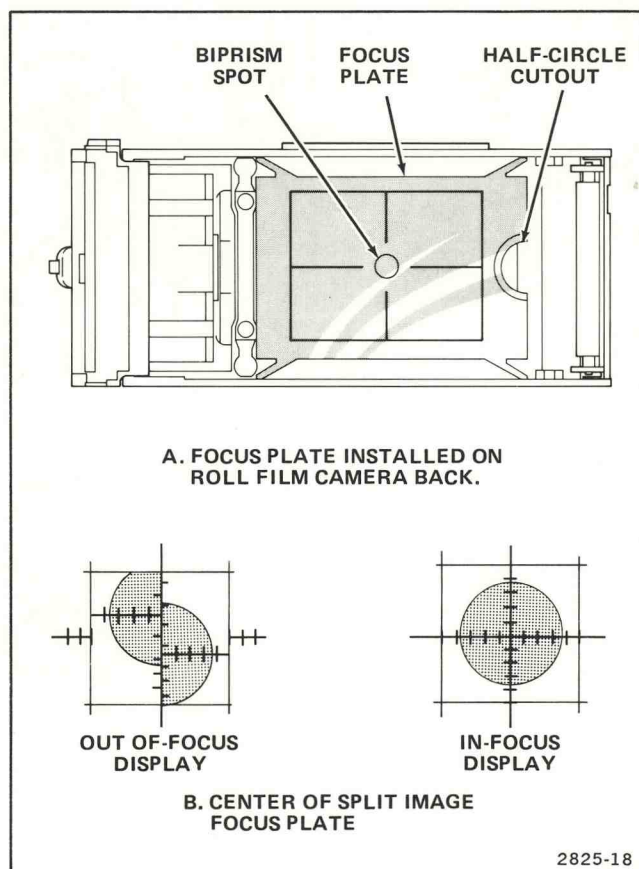

Figure 2-8. Installing and using the focus plate in the roll-film back.
4. Orient the frosted side of the focus plate toward the camera lens and insert the two bottom ears inside the edge of the camera-back film compartment. Gently press the upper mounting ears all the way into the film plane within the film compartment. The upper mounting ears must be compressed, and the focus plate inserted into the film compartment at the same time as shown in Figure 2-8(A). The half-circle cutout in the plate provides a finger hole for easy removal of the focus plate.
6. Release the FOCUS LOCK knob and adjust the FOCUS knob until the trace (or graticule line) is aligned with itself. Refer to Figure 2-8(B) for an example of an in-focus display.